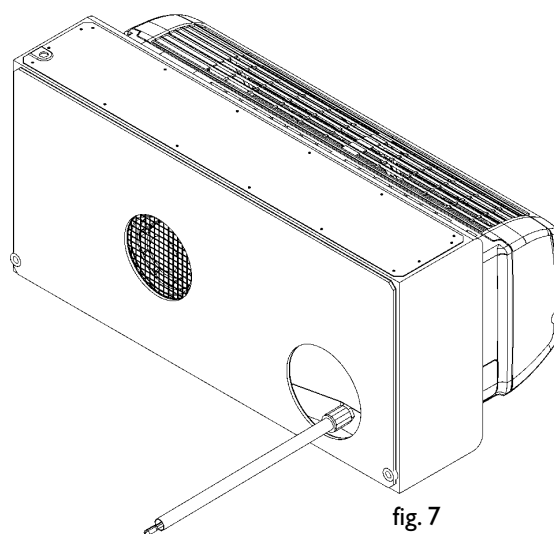

fig. 7
3. Apply the insulated flanges on the rear panel in order to create the right contact with the air conditioner (IMPORTANT: the cut flange must be applied near hole A shown in Figure 7 where the insulated pipe will be connected) and fastened to the body of the machine **using bi-adhesive tape (recommended)** or self-tapping screws of 1.5 cm maximum length (N.B.: for the holes in the unit's rear panel, mount a spacer on the drill bit that prevents drilling to a depth of more than 1.5 cm); this installation is not fixed because minimum oscillations might shift the air suction and expulsion pipes.
4. Apply plastic pipes of diameter and length adequate to the distance of the air conditioner from the glass itself to the flanges applied on the rear panel, making sure that the pipe lined with condensate-proof material is inserted in hole "A" in Figure 7.
5. Whenever the pipes supplied are not used, remember to provide the air expulsion pipe (hole "A" in Figure 7) with condensate-proof lining for its entire length.